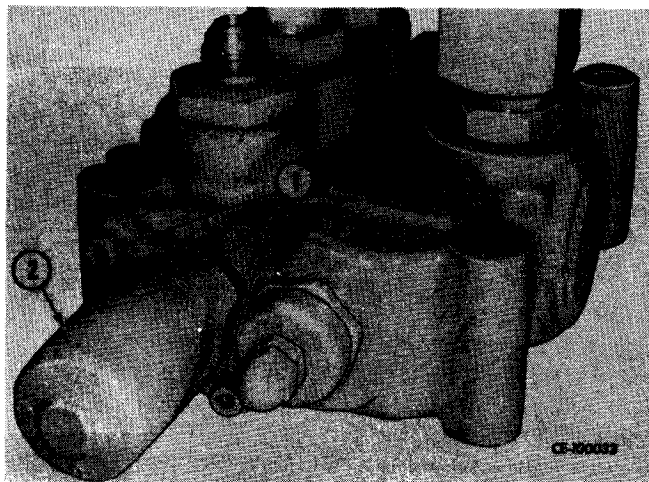
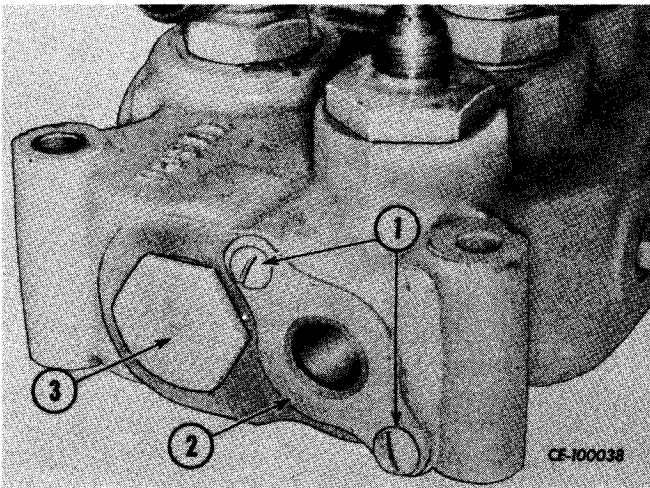

Figure 11-12
Figure 11-17
Remove bolts (1, Fig. 11-12) and plunger cap (2).
Remove round head screws (1, Fig. 11-17) and plate (2) from end of valve.
Install plate (2, Fig. 11-17) and round head screws (1). **DO NOT TIGHTEN.**
Install cap (2, Fig. 11-12) over end of valve spool. Install and tighten allen head cap screws (1). Complete tightening round head screws (1, Fig. 11-17).